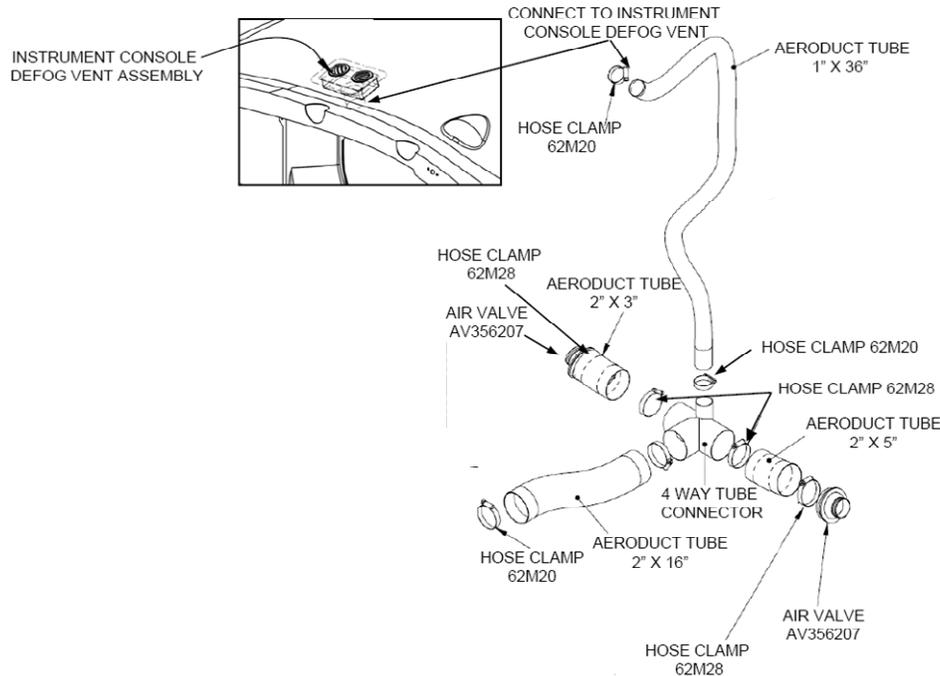

Figure 21-8 Defogging System
5. Loosen and slide hose clamp from 1 inch Aeroduct defogging tube end located on top of the four way tube connector assembly as shown in Figure 21-8.
7. Loosen and slide hose clamp from 1 inch Aeroduct defogging tube end located on the instrument console vent assembly as shown in Figure 21-8.
3. Slide the 1 inch Aeroduct tube up from the four way tube connector assembly into the instrument console. Continue routing up to the defogging vent assembly as shown in Figure 21-8.